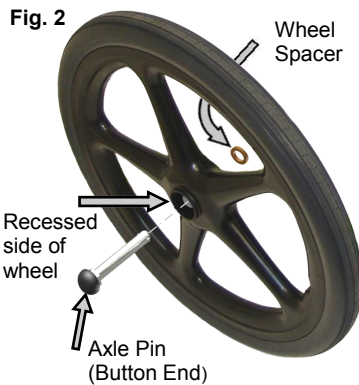

Fig. 2
- Remove axles and axles spacers from plastic bag. Insert an axle into a wheel from the recessed bearing side (fig. 2), push in button at end of axle to allow the axle to slide through the wheel bearings. Assemble 1 spacer onto axle at the back of the wheel as shown in fig. 2 while holding axle button in.